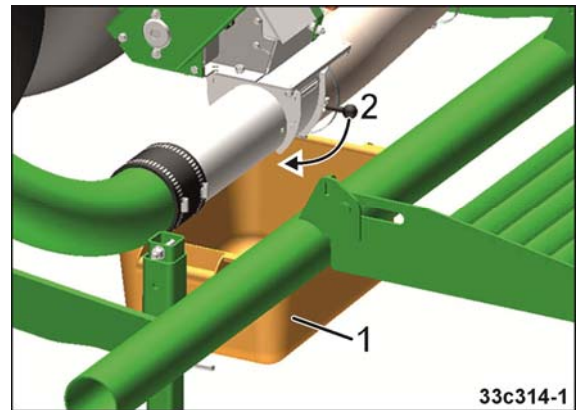
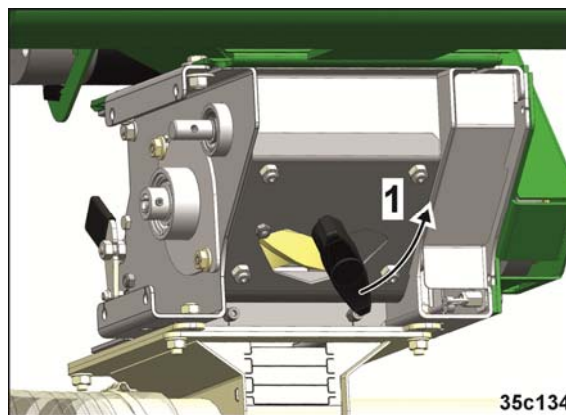

Fig. 71
Fig. 72
3. Place the calibration trough under the metering unit (Fig. 71/1).
4. Open the injector sluice flap (Fig. 71/2) so that the remaining metered material can flow into the calibration trough.
5. Open the residue emptying flap by turning the handle (Fig. 72/1).
8. Carefully close the residue emptying flap (Fig. 72/1) and injector sluice flap (Fig. 71/1) and secure the calibration trough on the transport bracket.